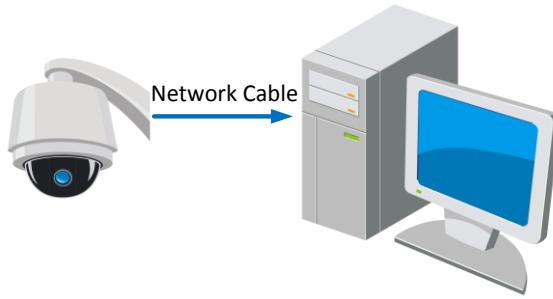

Figure 2-1 Connecting Directly
- To test the network PTZ camera, you can directly connect the network PTZ camera to the computer with a network cable as shown in Figure 2-1.